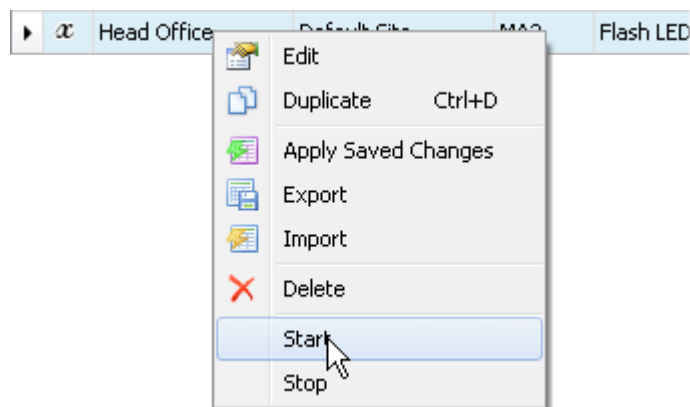

Figure 39
2. Right-click the macro in the automation the macro panel and select 'Start'. (Figure 39)